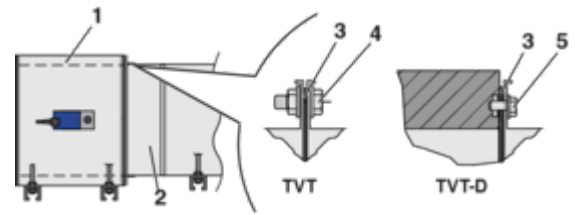

Fig. 14: Detail X: Connection version TVT without acoustic cladding or TVT-D with acoustic cladding
- X Detail ⇒ Fig. 14
X Detail ⇒ Fig. 14